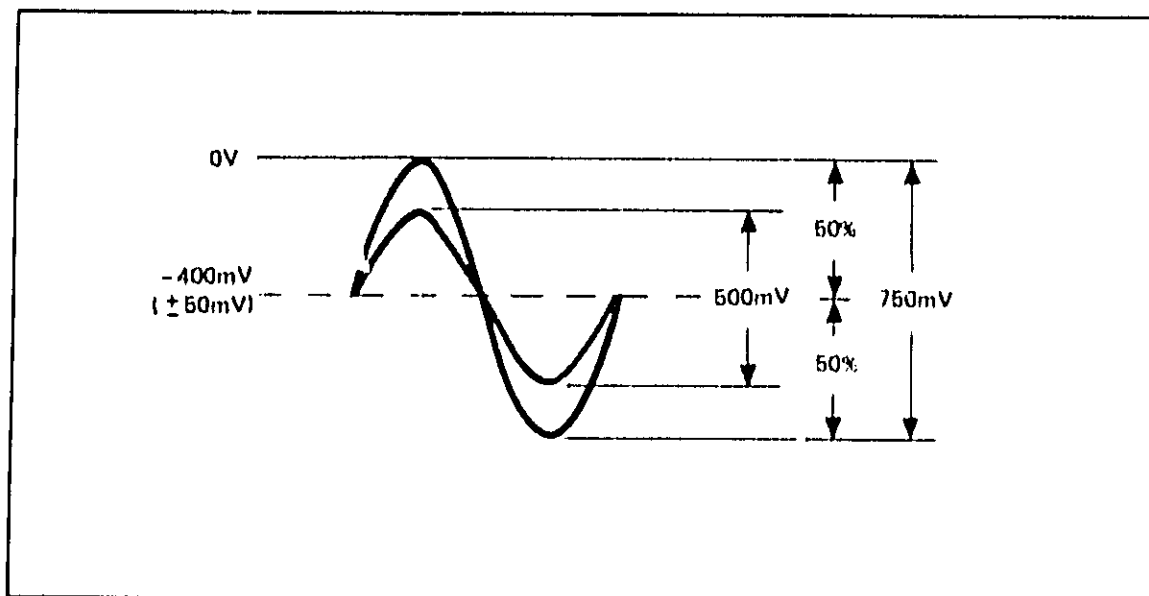

Figure 4-4. A15 Output Signal Duty Cycle
4-102. The A15 board consists of a Schmitt trigger identical to the one in the A3 Video (IF) board. The second Schmitt trigger provides the counter with a symmetrical signal with a 50/50% duty cycle. The output of A15U2 goes through a low-pass filter C10, L1, C12 with a cutoff frequency of approximately 600 MHz to attenuate harmonics. The "OUT BAL." control, A15R19, sets the reference dc level of the output Video (IF) trigger signal. The dc level must be exactly -400 mV $\pm$ 50 mV with a voltage swing of 750 mV (see Figure 4-4) from 400 MHz to 530 MHz and a voltage swing of 500 mV below 400 MHz.